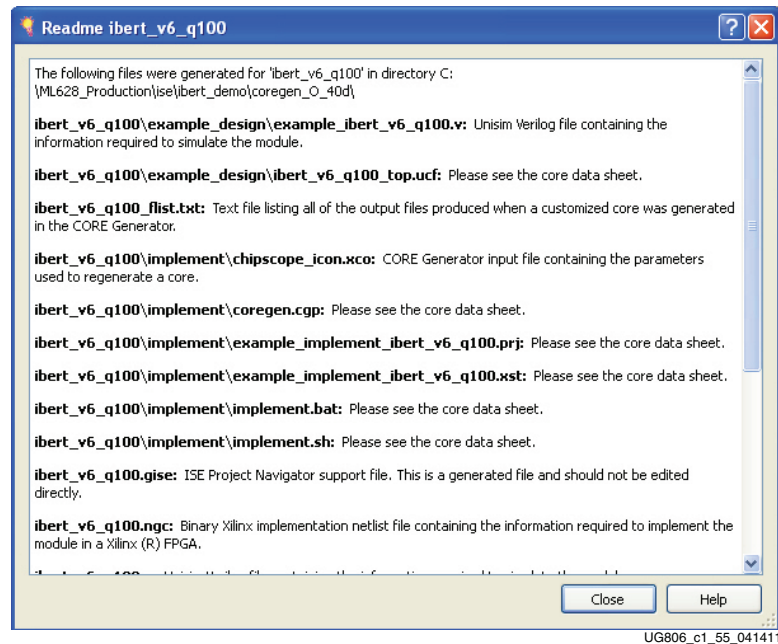

Figure 1-55: CORE Generator - Readme
15. The generation process will take a few minutes. When complete, a *Readme* window will appear (Figure 1-55). Review the information presented and locate the following files: